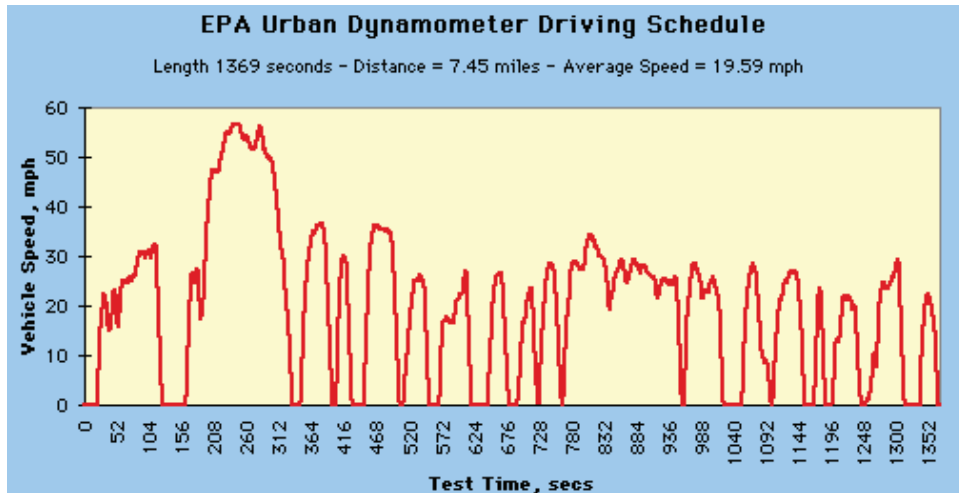

Figure 1. One Prep Cycle Speed Trace (i.e., FTP-72)
- **Prep**– As required by 40 CFR Part 86, EPA NVFEL ran a prep cycle the day before each FTP-75 test. The prep cycle is the Urban Dynamometer Driving Schedule (FTP-72). It is designed to mirror city driving conditions simulating frequent starts and stops. It is described in 40 CFR Part 86 Appendix I (a) and contains two phases (505 second, 3.6 mile Phase 1 and an 867 second, 3.9 mile Phase 2). Figure 1 shows the speed trace of a single prep cycle.